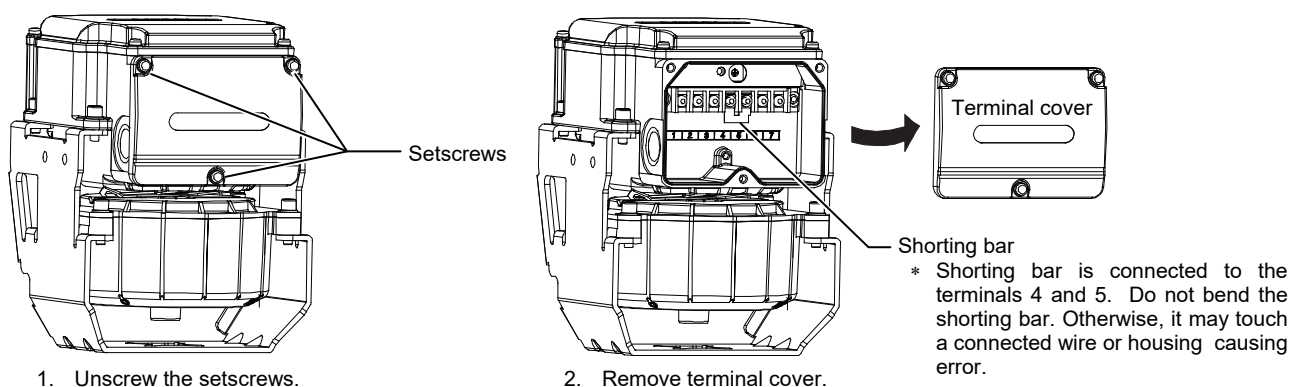

Figure 7. Terminal cover removal
- 2) Unscrew the 3 setscrews (M4 × 10) of the terminal cover and remove the terminal cover, as shown in Fig. 7.
- Unscrew the setscrews and remove the terminal cover. See Fig. 7 for removing the terminal cover.